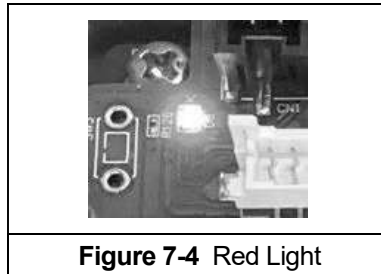

Figure 7-4 Red Light
- **Indication during an error** - During an error, the LED blinks in orange or red. (See **Figure 7-4**)